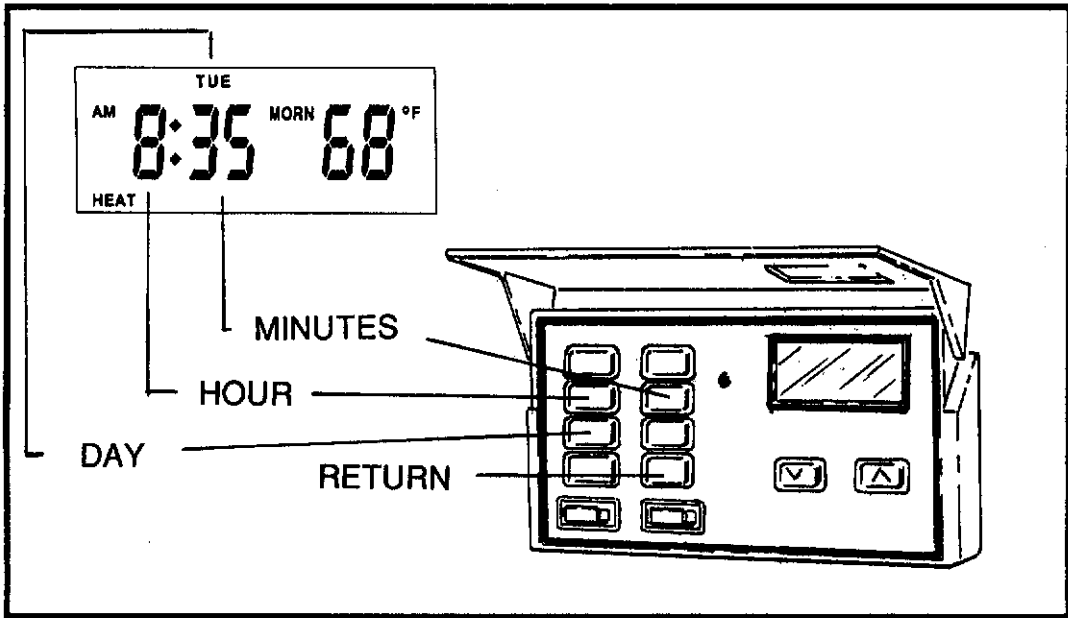

figure A-4
SETTING THE TIME OF DAY (figure A-4)
1. Press DAY key until correct day of week is displayed (figure A-4)